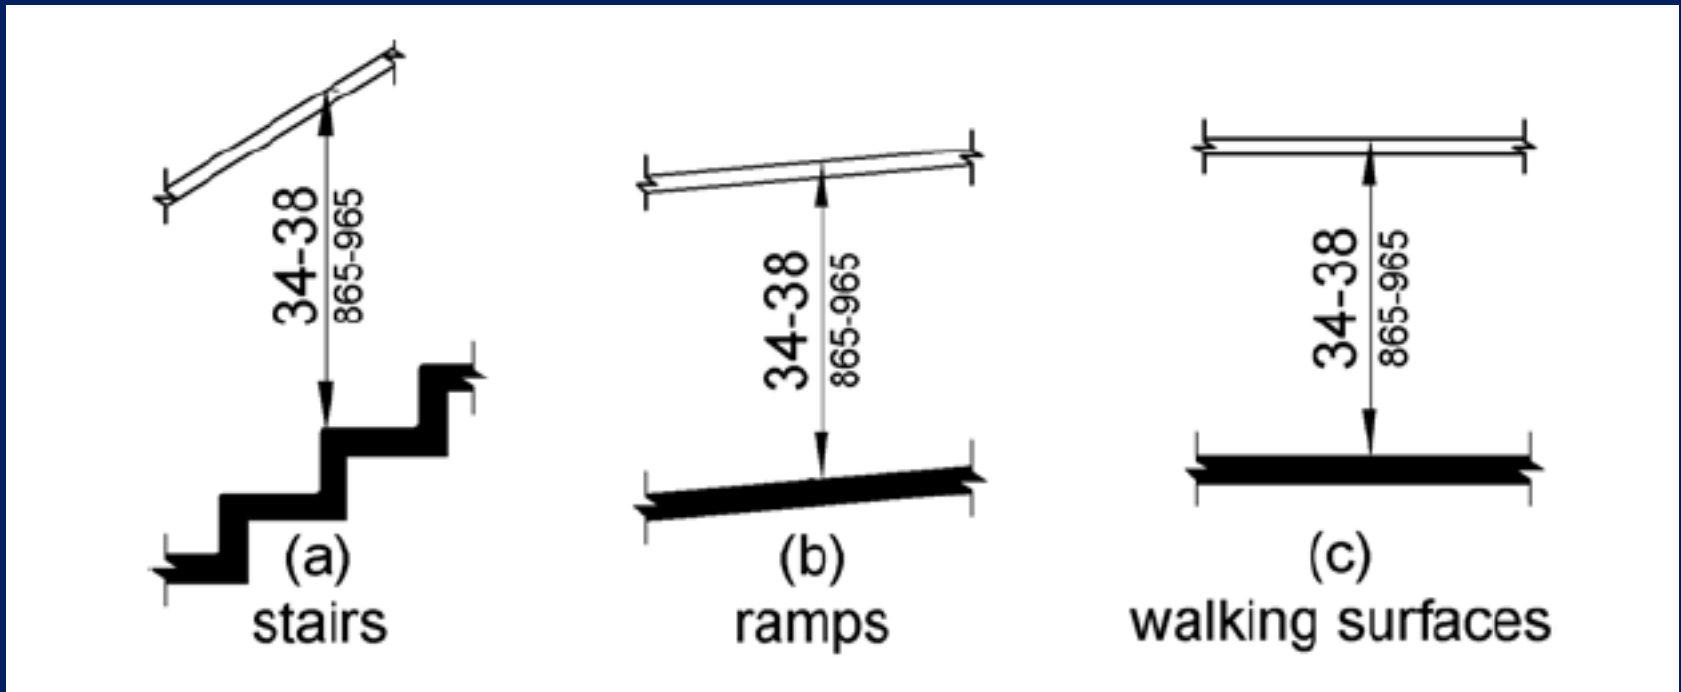

Figure 505.4 Handrail Height
- Stairs – measured from nosings to top of gripping surface (see ADA Fig. 505.4)